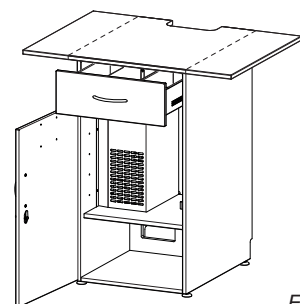

Fig. 21
3.10.4 Base cabinet with built-in cooling unit (fig. 21)